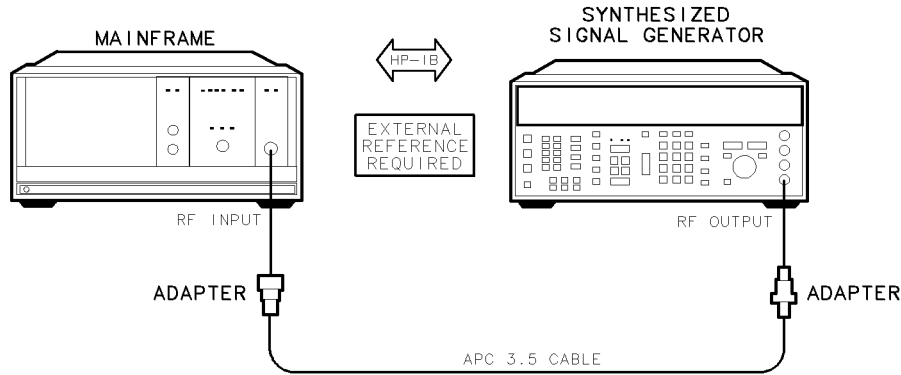

Figure 7-17. LO Frequency Error versus Sweep Time Test Setup
1. Connect the HP 8663A synthesized signal generator's RF OUTPUT to the DUT's RF INPUT using the adapters as shown in Figure 7-17. Refer to Figure 7-1 for system rear panel connections.